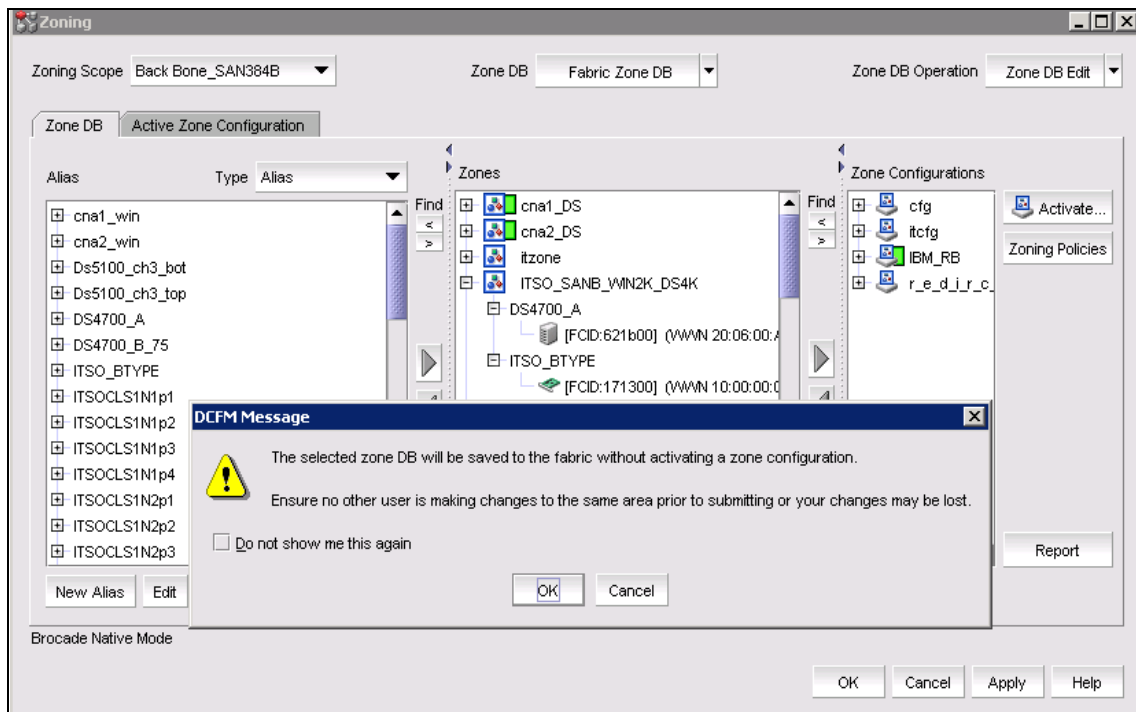

Figure 12-17 Save the configuration
7. To save the configuration changes, click **Apply** or **OK**, a DCFM Message window opens that warns you that the changes made will only be saved to the fabric. See Figure 12-17.